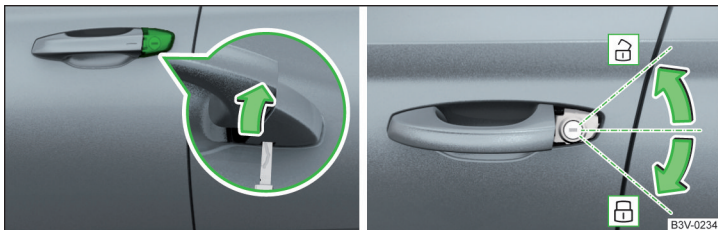

Fig. 347 Handle on the driver's door: Open/unlock and lock cover
- › Insert the key into the recess on the lower side of the cover and fold up the cover in the direction of arrow » Fig. 347.